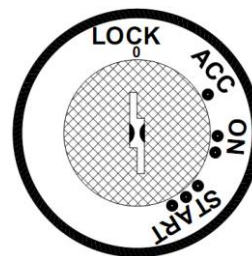

Figure 7.1
- Turn the key from the "LOCK" to the "ON" position (second notch) (Figure 7.1). The dashboard indicator lamps will illuminate for a few seconds. Only the park brake indicator on the dashboard should remain illuminated.
- Turn the ignition key to the "LOCK" position. (Figure 7.1)